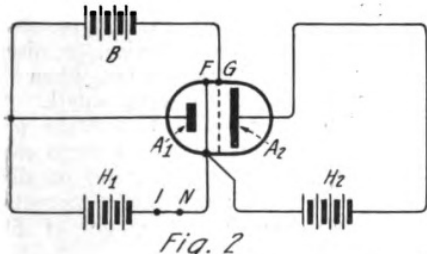

Fig. 2
The action of the negatron will be better understood if reference is made to figure 2, which shows a negatron connected up in one way so as to possess negative resistance characteristics. Between the anode A1 and the filament F is a battery H1, and two terminals I, N. Between these terminals a milli-ammeter may, for the time being, be connected. The anode is connected through a battery B to the grid G. This battery is
2, except that the two batteries are replaced by a single one (H) of about 60 volts. The main anode is connected through a leaky grid condenser C2 to the grid G, a resistance R1 being connected across grid and filament. This leaky grid condenser merely replaces the battery B of figure 2 for the purpose of avoiding a high positive grid potential. The filament F is heated by current from the 6-volt accumulator B2 through the rheostat R2, of about 7 ohms resistance. This rheostat is adjusted until continuous oscillations are produced in the oscillatory circuit L, C1. It is to be noted that the diversion anode circuit plays no other part in the circuit than as a path around which electrons are shunted. The A2 anode current produces no effect whatever on the oscillatory circuit L, C1. If this anode were disconnected, the circuit would not, of course, oscillate even if there were plenty of electrons, because the phases of the grid potentials would be exactly